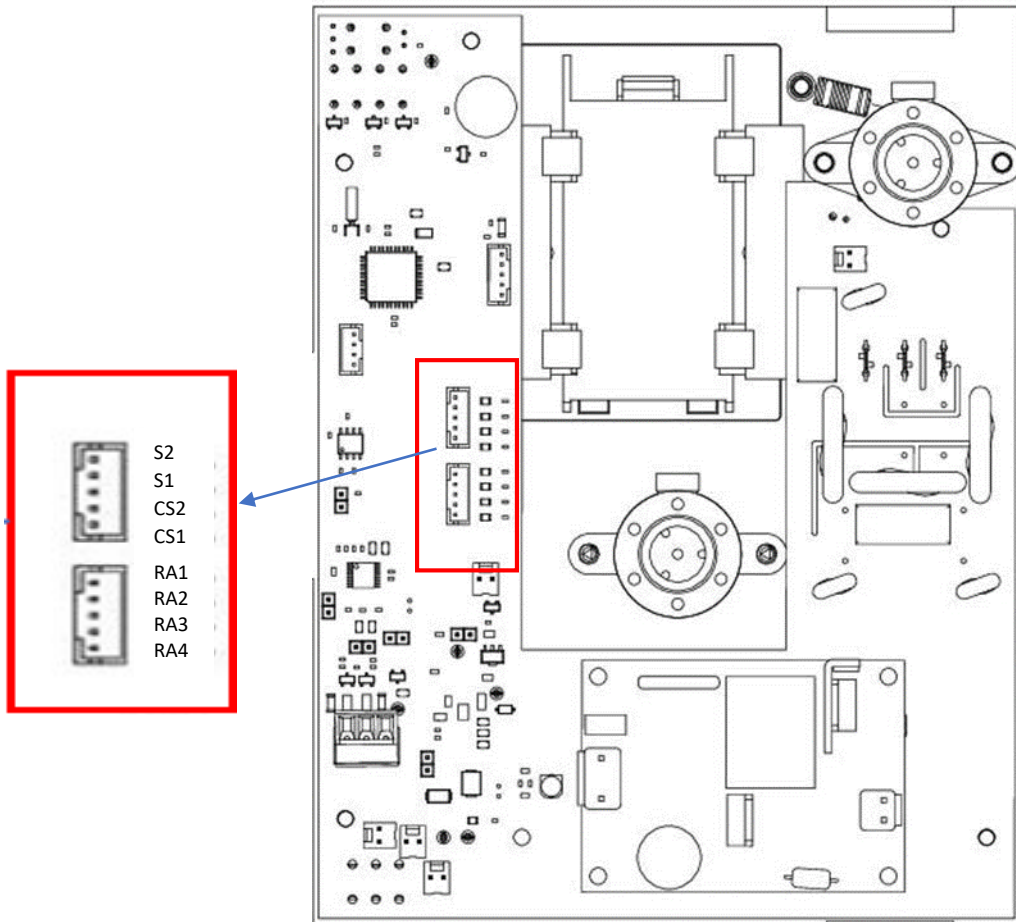

Figure 9 - Chart Parameters Settings LED Indication
- Locate the 8 LEDs on the PCB – refer to figure 9.